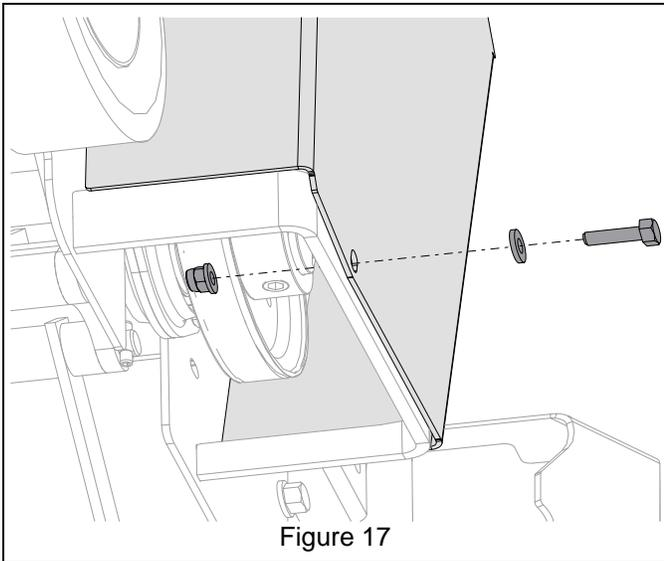

Figure 17
9. Secure bottom of belt shield with hardware removed earlier. See Figure 17.